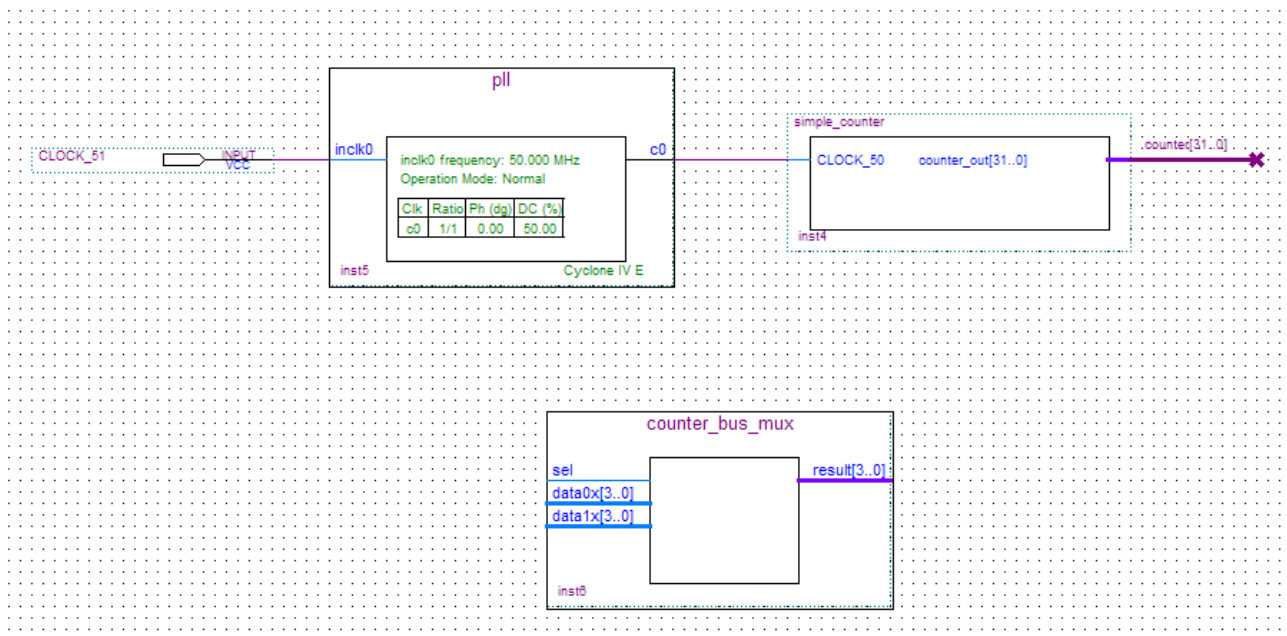

Figure 6-36 Place the lpm_mux symbol
13. Place the counter_bus_mux symbol below the existing symbols on the BDF. See **Figure 6-36**.